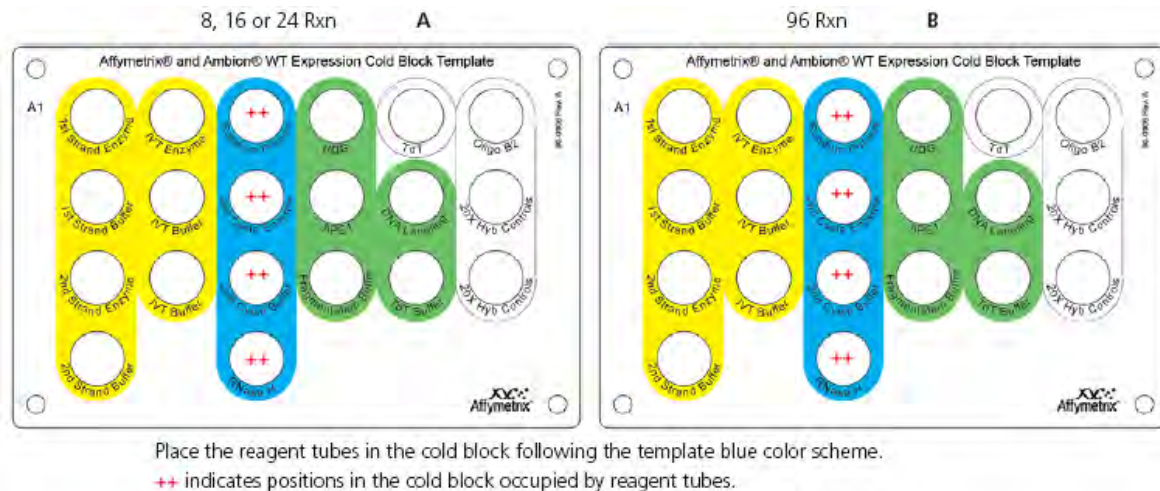

Figure 38 Reagent cold block setup for 8, 16, 24, and 96 reactions for Part 3.
3. Set up the reagent cold block as shown in Figure 37 or Figure 38 A or B.
- Uncap the Random Primers, Second-Cycle Enzyme Mix, Second-Cycle Buffer Mix, and RNase H reagent tubes and insert them into the cooled reagent cold block following the blue color code of the template (Figure 38). Place the reagent cold block on the deck at position Pelt_1.